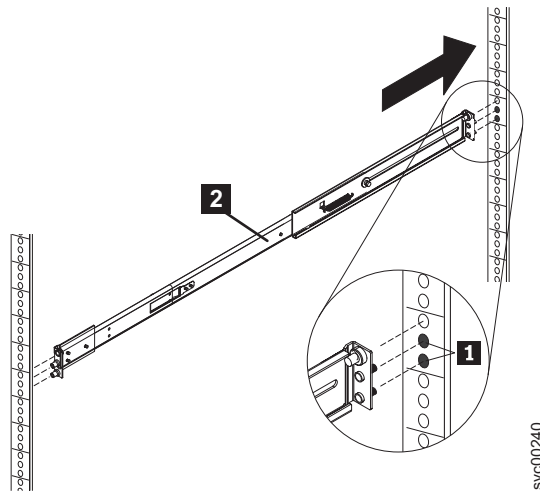

Figure 20. Inserting the right slide rail into the rear rack mounting flange
3. Insert the right slide rail **2** into the rear rack mounting flange, as shown in Figure 20, with the rail pins **1** protruding through the flange.